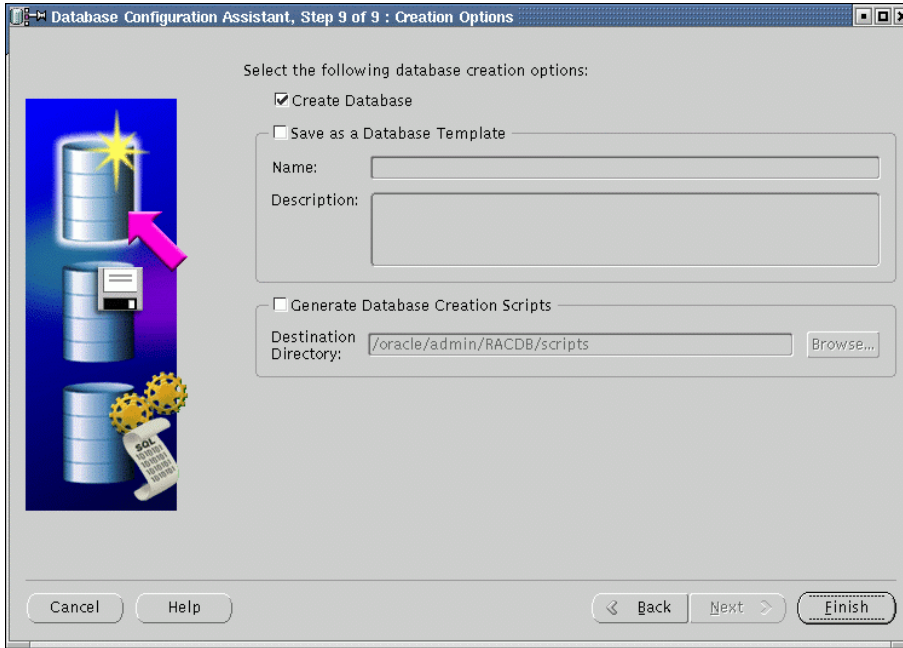

Figure 86. dbca creation options
17. The next screen (Figure 86) displays Creation Options. Ensure that **Create Database** is checked and click **Finish**.